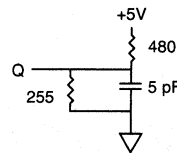

Fig. 2 OUTPUT LOAD EQUIVALENT
6. ^tHZCE, ^tHZWE and ^tHZOE are specified with CL = 5pF as in Fig. 2. Transition is measured ±500mV from steady state voltage.